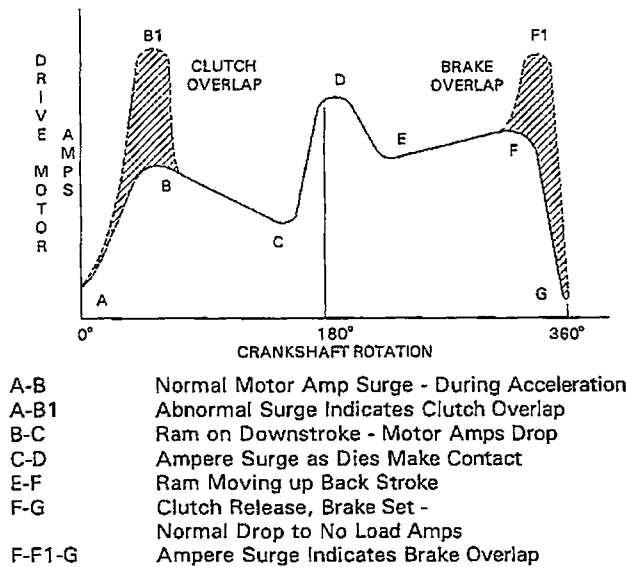

Figure 3
- 3.2.3 If the DBBS brake is used in combination with a clutch, clutch/brake overlap may occur which will result in excessive heat generation and motor overload. Overlap may be detected by monitoring the drive motor current at the beginning and end of each machine cycle. A current surge at the beginning of the cycle usually indicates clutch overlap which can be corrected by restricting the air flow to the clutch or increasing the air pressure to the brake. A current surge at the end of the machine cycle usually indicates brake overlap (see Figure 3) which can be corrected by installing and adjusting a flow control valve in the brake air supply line, as indicated in 3.2.2.